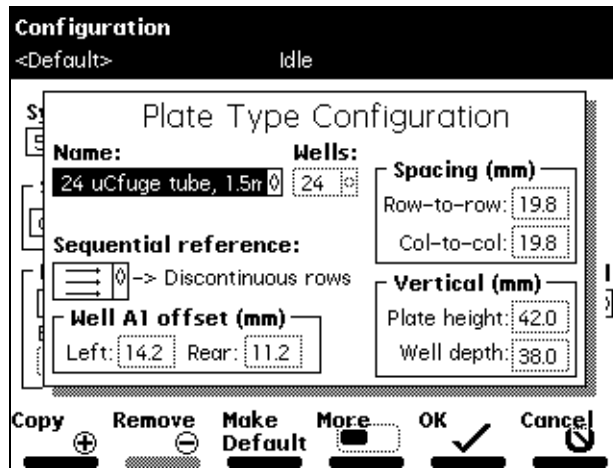

Figure 1-7 Plate Type Configuration Dialog Box
1. In the Configuration screen, press the **Plate Types** screen key to display the Plate Type Configuration dialog box (Figure 1-7).